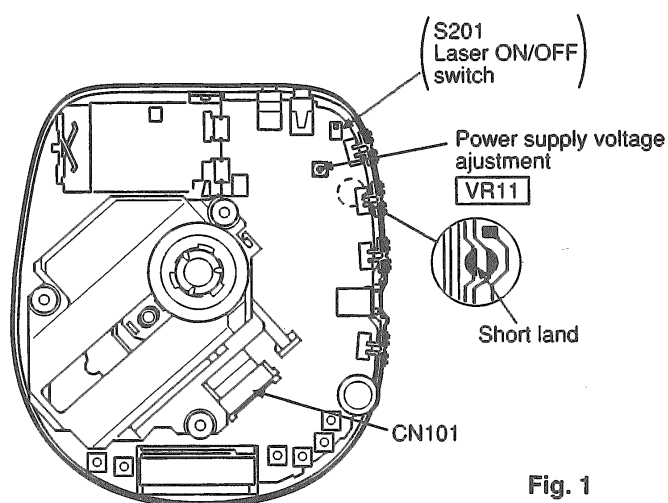

Fig. 1
Short-circuit the lands of the laser ON/OFF switch (S201) by soldering them. It turns "ON" position. (Refer to below Fig. 1. or printed circuit board and wiring connection diagram for short land location on page 24.)
2. Take care to connect CN101 (as shown in Fig.1).
2. Connect the AC adaptor cord to the DC (IN) port and move the PLAY switch to the ON position. Anti-shock is set in OFF position. (Use a new dry cell battery or a rechargeable battery that is full charged.)
4. Adjust **VR11** on the P.C.B. at $2.50 \pm 0.02V$, as shown in Fig.1.